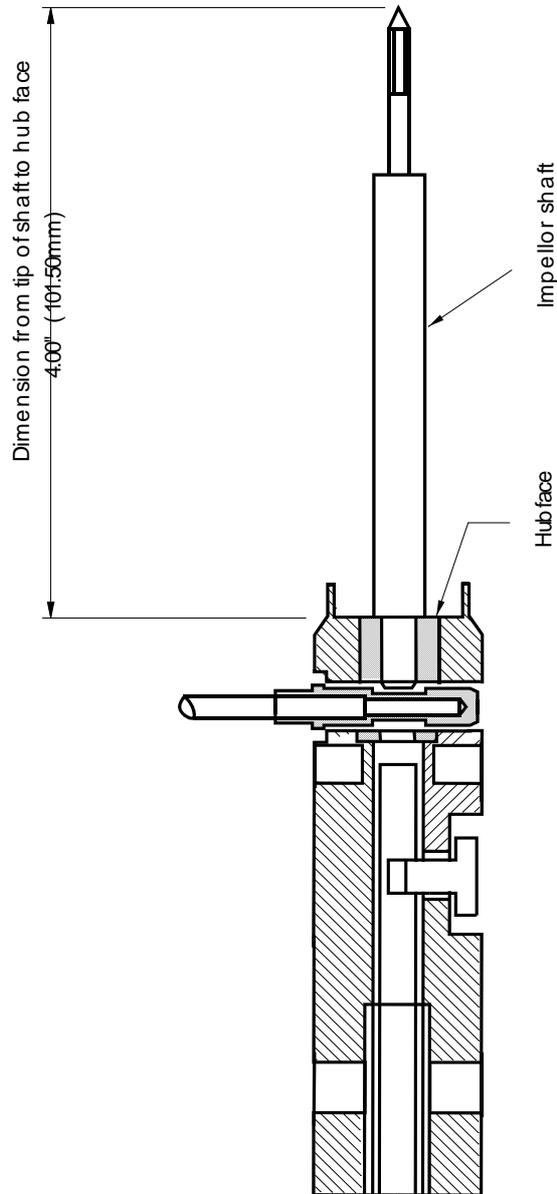

Figure 4 - BFM002 Impeller Shaft Setting
8.4. Figure 4 - BFM002 Impeller Shaft Setting